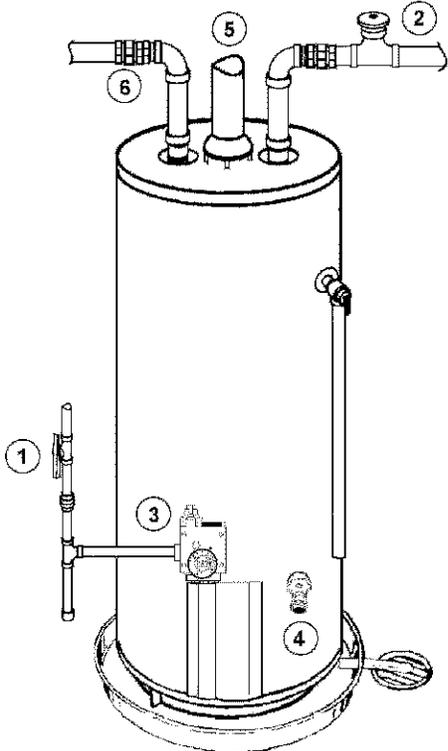

FIGURE 2.
If the main gas line shut-off valve serving all gas appliances is used, also shut "OFF" the gas at each appliance. Leave all gas appliances shut "OFF" until the water heater installation is completed, see Figures 2 and 3.
- 2 Turn "OFF" the water supply to the water heater at the water shut-off valve or water meter. Some installations require that the water be turned off to the entire house, see Figures 2 and 4.
- 4 Attach a hose to the water heater drain valve and put the other end in a floor drain or outdoors. Open the water heater drain valve. Open a nearby hot water faucet which will relieve pressure in the water heater and speed draining. The water passing out of the drain valve may be extremely hot. To avoid being scalded, make sure all connections are tight and that the water flow is directed away from any person, see Figures 2 and 5.